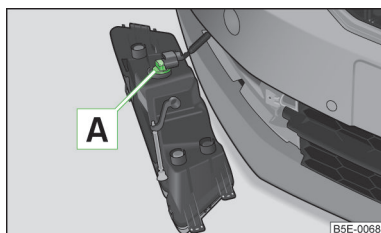

Fig. 227
- Turn bulb holder [A] » Fig. 227 in an **anti-clockwise** direction up to the stop and remove.